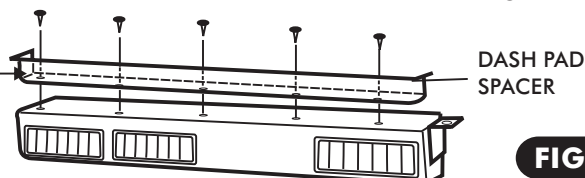

FIGURE 11b
- ❑ **VEHICLES WITHOUT OEM DASH PADS** - REMOVE DASH PAD SPACER (5 METAL SCREWS) AND MOVE THE DRIVER'S SIDE FRONT BRACKET TO THE DRIVER'S SIDE END OF THE EVAPORATOR. SEE FIGURE 11B.